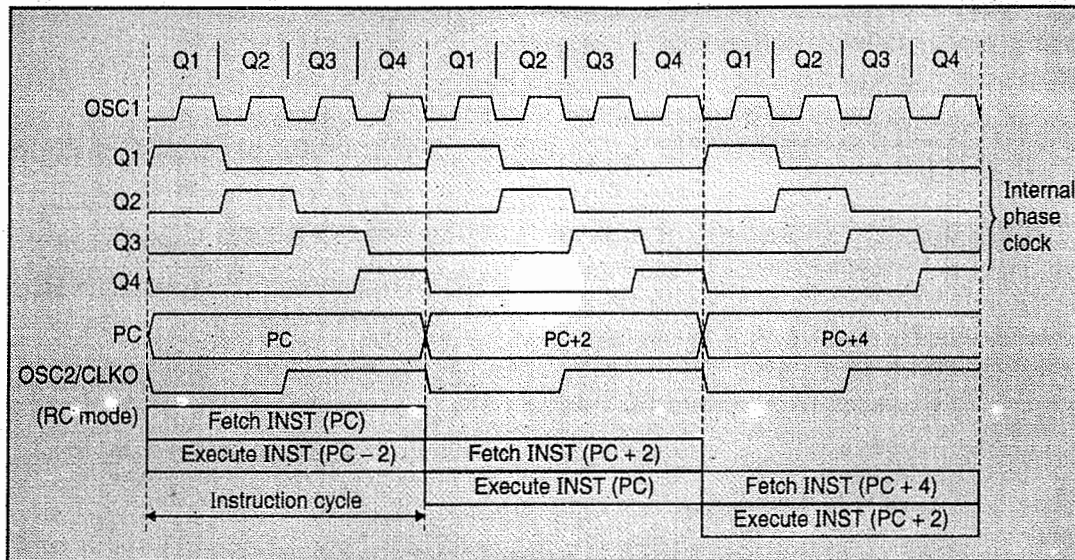

Fig. 4.14.1 : Clock/Instruction cycle
- After every instruction cycle the Program Counter (PC) is incremented by 1.
- Fig. 4.14.1 shows the clocks and instruction execution.
- An "Instruction Cycle" consists of four Q cycles (Q1, Q2, Q3 and Q4) as shown in Fig. 4.14.1.